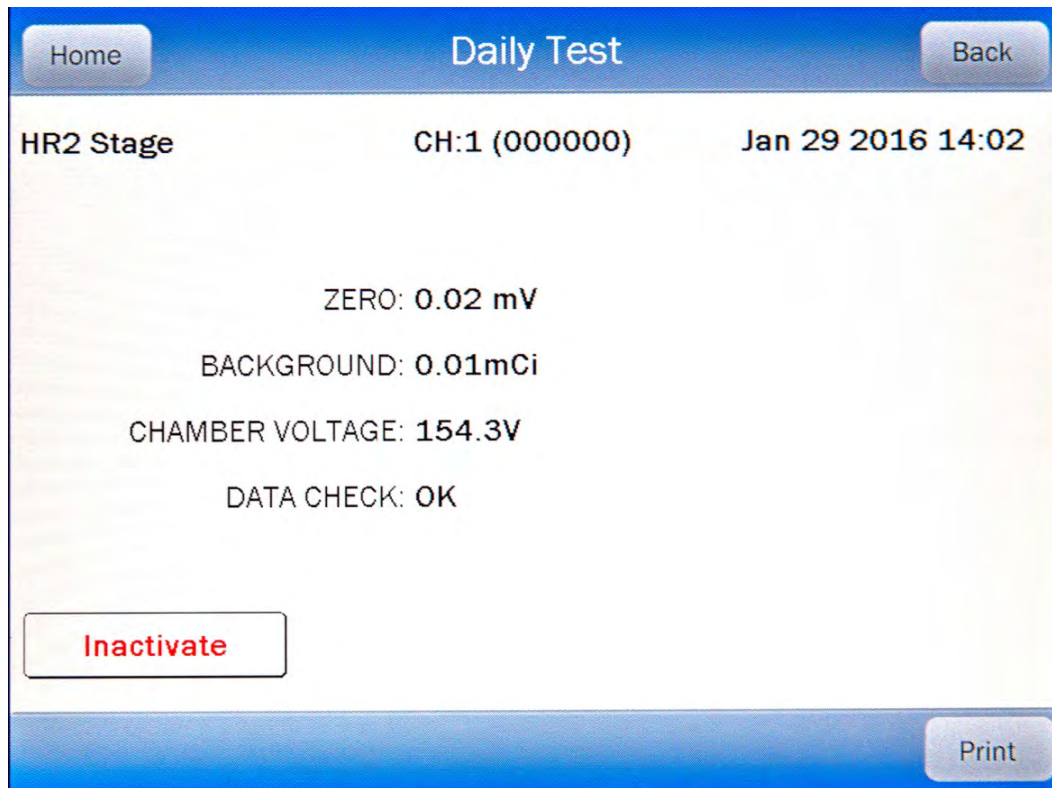

Figure 13-7 Daily Test Report Screen
Touch the **VIEW** button. Figure 13-7 Daily Test Report Screen will appear displaying the detailed report for the selected Daily Test result.
To exit Figure 13-7 Daily Test Report Screen,
If an Accuracy Test was performed as part of the selected Daily Test, an **Accuracy Test** button will be displayed as shown in Figure 13-7 Daily Test Report Screen. If an Accuracy Test was not performed as part of the Daily Test, the **Accuracy Test** button will not be displayed.
- touch the **BACK** button – Figure 13-7 Daily Test Report Screen will re-appear or
If it is decided not to inactivate the selected Daily Test result, touch the **NO** button. Figure 13-7 Daily Test Report Screen will re-appear.